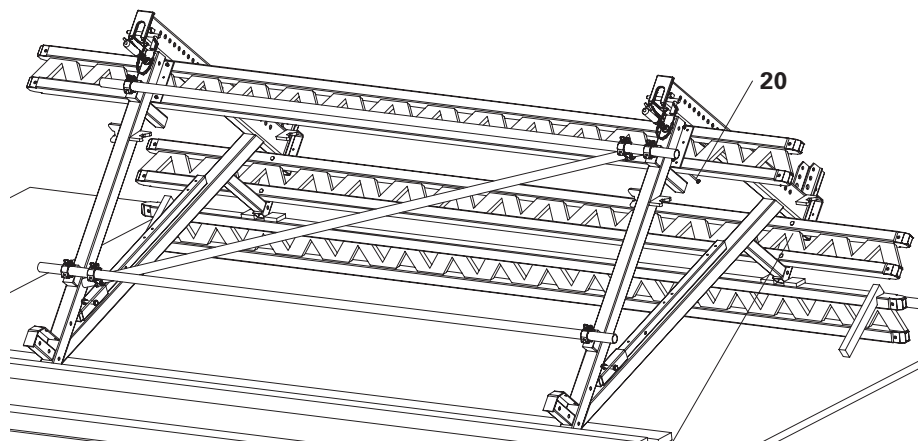

Fig. A1.08
1. Fix Lattice Girder GT 24 (2) by means of screw clamps.
2. Pre-drill Lattice Girder GT 24 ( $\varnothing$  8) and fix to the mounting plates with 2x F. H. Bolts DIN 603 M8 x 100, MU (20).
- (Fig. A1.08)